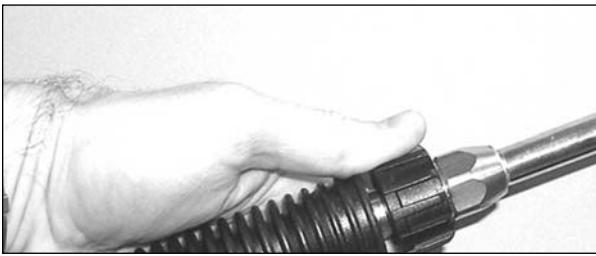

Figure 7- Attach lance to gun
7. Attach the lance to the gun (see Figure 7).